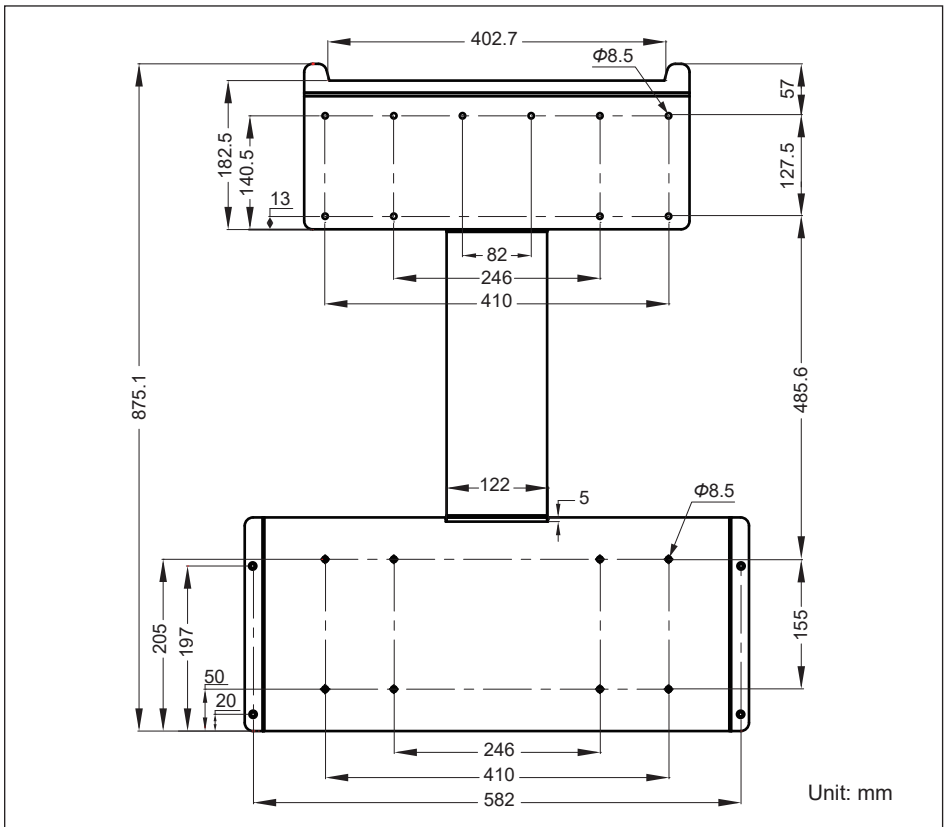

Figure 3-2 : Mounting bracket dimensions
This unit is designed to be wall-mounted. Please ensure that the installation is perpendicular to the floor and the AC and DC terminal are at the bottom position. Please follow the instruction as shown from **Figure 3-2** through **3-4**. First, fix the wall mounting bracket on a solid support surface. Second, please mount the inverter on the bracket securely. Note that **Figure 3-2** through **3-8** should be followed.
1. Screw the wall mounting bracket on the wall with at least 8 M8 Phillips head screws. Please refer to **Figure 3-2** and **3-3** for correct installation.